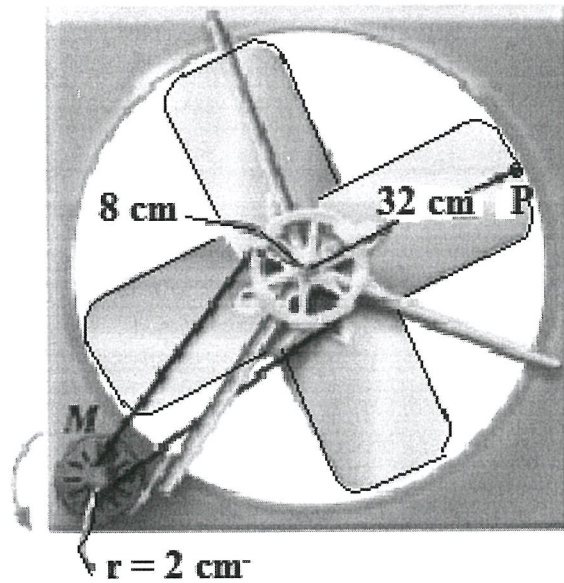

Figure Q5(a)
- Q5 (a)** Figure Q5(a) shows, a belt drive is used to transmit power from an electric motor to a fan. The electric motor, is rated at 3000 rpm. The radii of motor's and fan's pulley is 2 cm and 8 cm respectively. Calculate, the velocity ratio the operating speed of the fan and the belt speed.